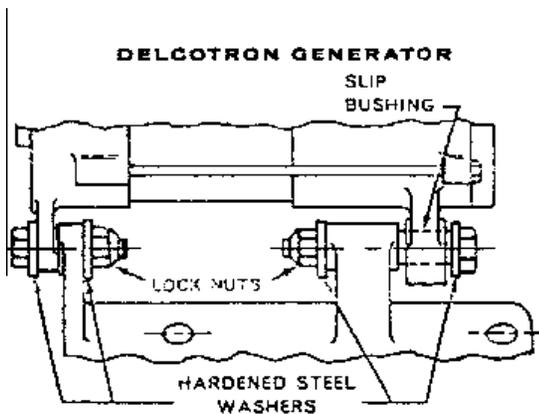

Figure 2
1. Loosely assemble the bolts through the generator lugs and the mounting bracket with the bolt heads preferably on the outside. Use the washer specified in the table under each bolt head and nut. (See Figure 2.) DO NOT TIGHTEN. Refer to Field Service Bulletin DR-7288 for aligning two-piece mounting brackets.